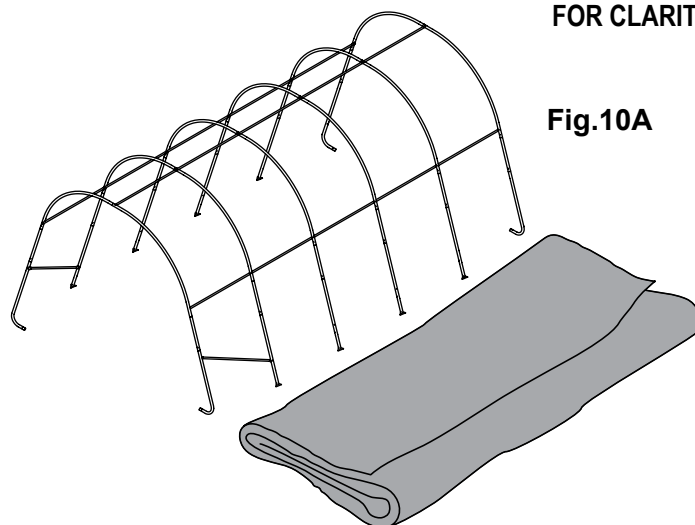

Fig.10A
**A.** Lay the cover on the ground next to the frame with the inside of the cover (the side with the pipe pockets) facing down and the webbing on the front and rear of the corner of the building. Position the cover so that it is centered to the frame, front to back. Fig. 10A